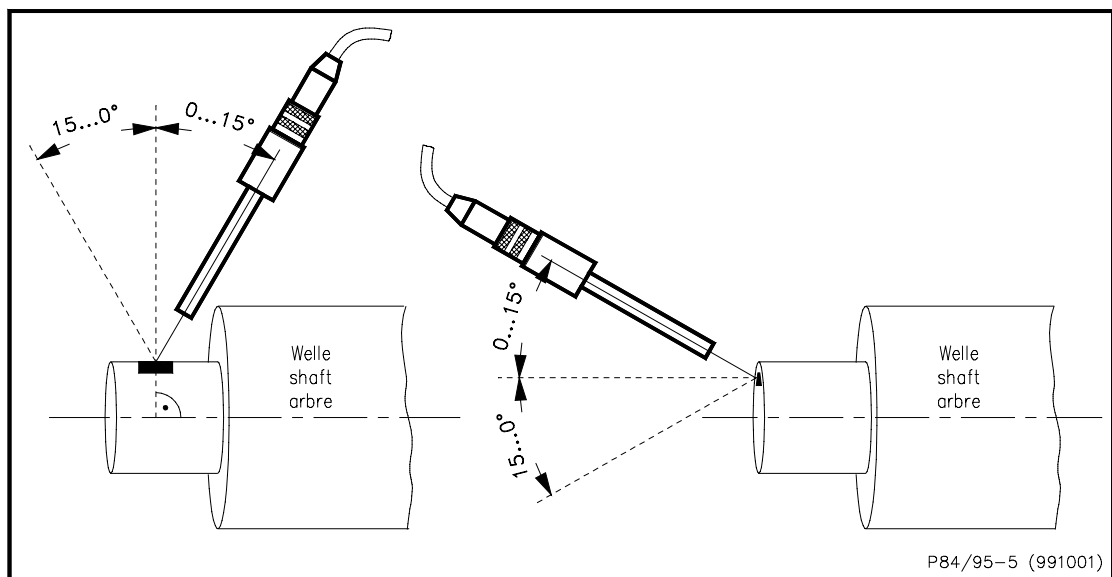

Fig. 5 Optimum installation angle of the reference sensor
- ◆ The optimum angle of the reference sensor vertical to the axis of shaft rotation should be **0 ... 15°** (see Fig. 5). Right-angled installation might lead to scattering of the reflected light; the reflected signal level will be too low at angles above 30°.